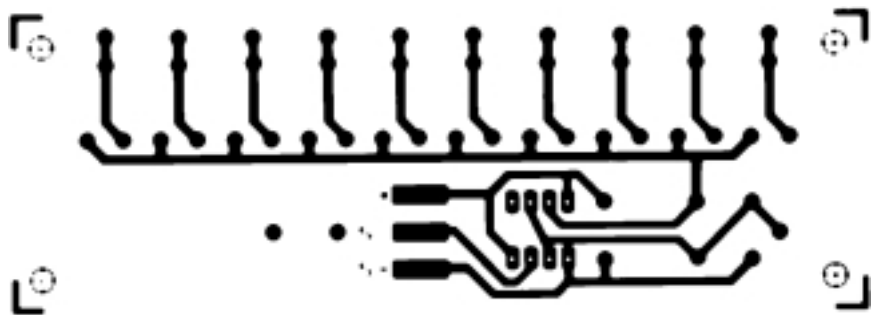

Figure 3 The connections
(a) Using a PCB. The job is very simple. The placement of components on the unsoldered side of the board is shown in **Figure 2** and the design on the copper track is illustrated in **Figure 3**. Put each component, in turn, on the board, making sure that it lies flat on the board with its tags or wires going cleanly through the holes provided for it; then, solder the wires to the board, cropping them before or after the soldering,
- (b) Without a PCB. This is more difficult, and you may need to enlist some help. Using some matrix board (such as Veroboard) is probably the best way of replacing the PCB. You could arrange your circuit in exactly the same way as in the PCB in Figure 3, using wires to replace the copper track.